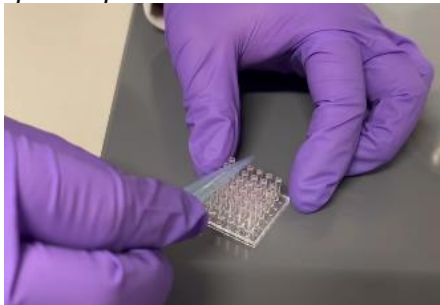

Figure 3. Scrapping excess Matrigel off the pillars using the 1 mL pipette tip.
13. After loading Matrigel on all pillars, scrape excess Matrigel off the pillars by sliding the 1 mL pipette tip in a horizontal position on all pillars (**Fig. 3**).